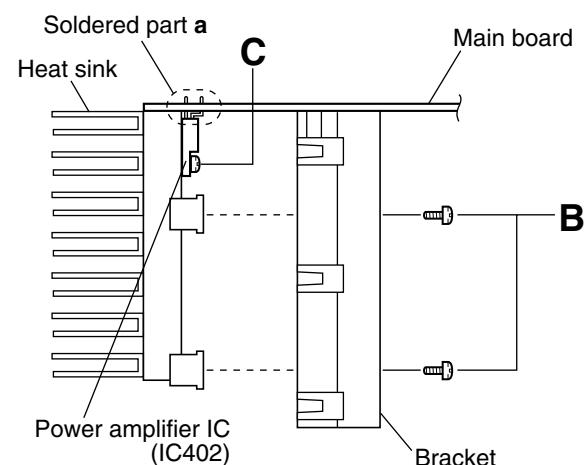

Fig.3
(See Fig. 3.)
3. Remove the screw **C** attaching the power amplifier IC onto the heat sink. (See Fig. 3.)
4. In order to replace the power amplifier IC, remove the solder from the soldered part **a** on the reverse side of the main board. (See Fig. 3.)